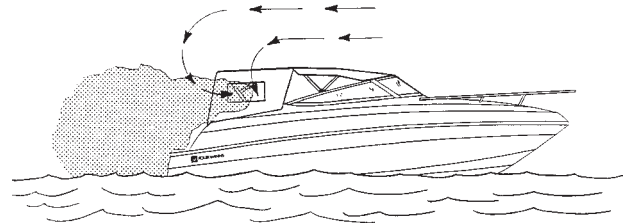

Figure B9: Backdrafting - Air flows over boat and behind transom.
Backdrafting or the "station wagon effect" is caused by air movement over or around a boat creating a low pressure area of suction area around the stern which can increase CO level on the boat. Backdrafting can be affected by relative wind direction, boat speed, and boat trim angle. See Figure B9 Backdrafting - Airflows Over Boat and Behind Transom".
3. Canvas Configurations - Under various conditions, adding or removing canvas may raise or lower CO levels. See Figures B9, B10 & B12.